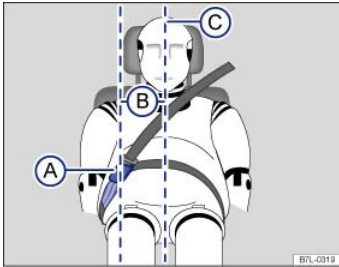

Fig. 62 Positioning of the safety belt extender.
Key to ⇒ Fig. 62 :
- Never use a safety belt extender if the distance (B) between the front edge of the safety belt extender buckle (A) and the centerline of the person using the safety belt extender \Rightarrow Fig. 62© is less than 6 inches (15 cm).